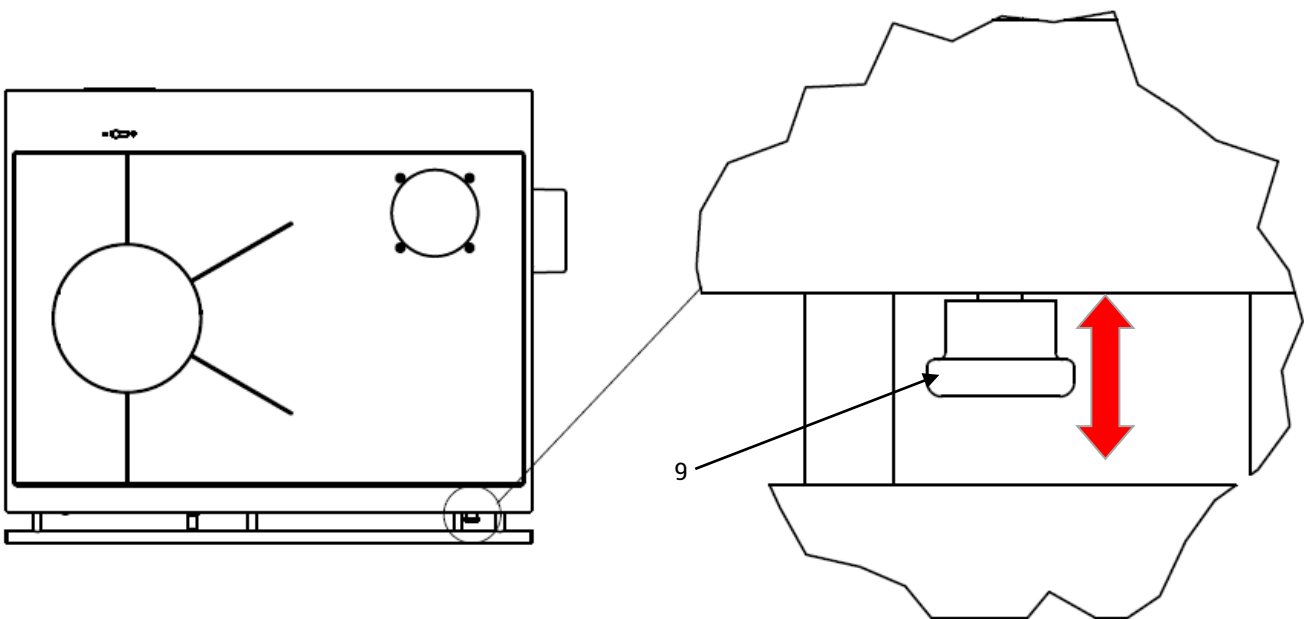

Figure 8
The launch of heating and ignition damper is carried out by means of draught leverage button (Figure 8, position 9) located above the oven door. The damper's role is to cut off the pathway of flue gases during ignition, as described on Figure 9 and 10
- After stoking of the cooker (first ember), retract the ignition damper button (Figure 8, position 9)